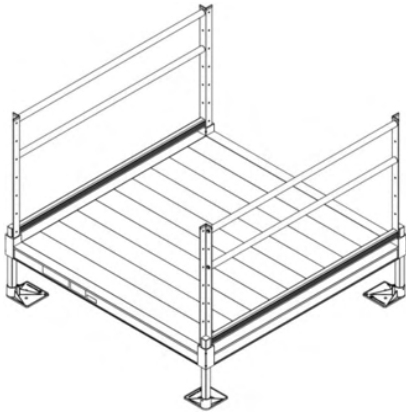

FIG. 2.9
- FIG. 2.9 Low profile platform straight configuration